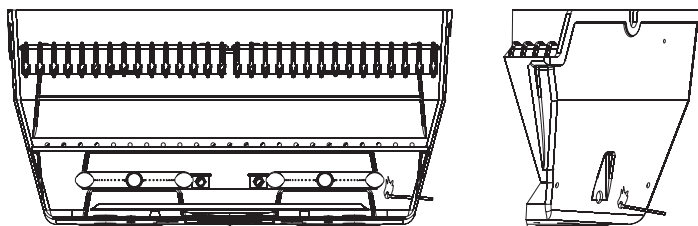

Figure 21
4. Insert a burning long wooden match through the lighter hole on either side of the grill. See Figure 21.